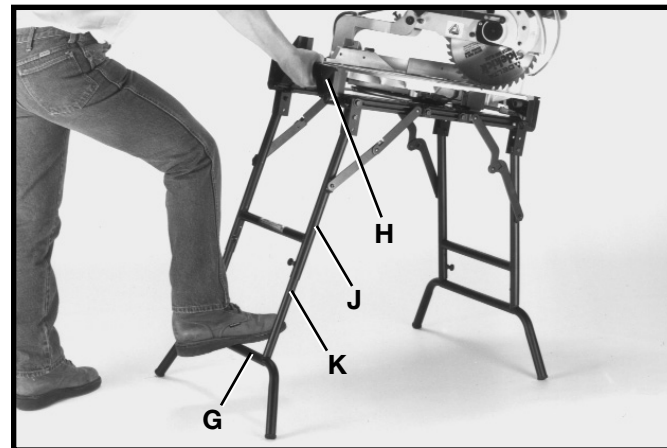
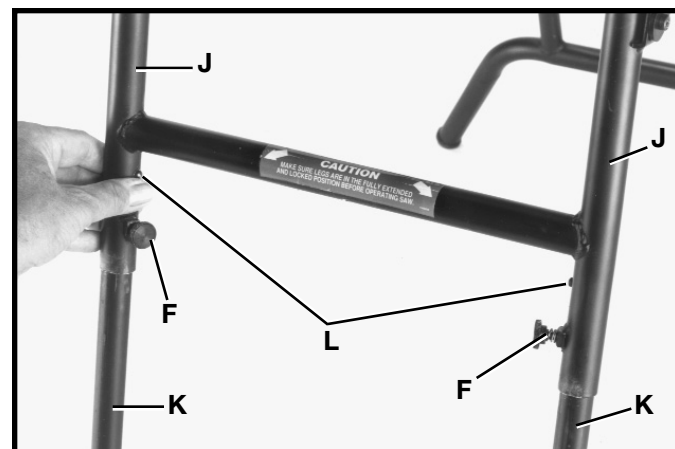

Fig. 9
Fig. 10
6. With foot on lower brace (G) Fig. 9, lift up table extension (H) so upper leg (J) extends out from lower leg (K) and protrusions (L) Fig. 10, snap in and engage with round holes in upper legs (J). This locks the upper and lower legs (J) and (K) in position. Tighten two locking knobs (F) Fig. 10.